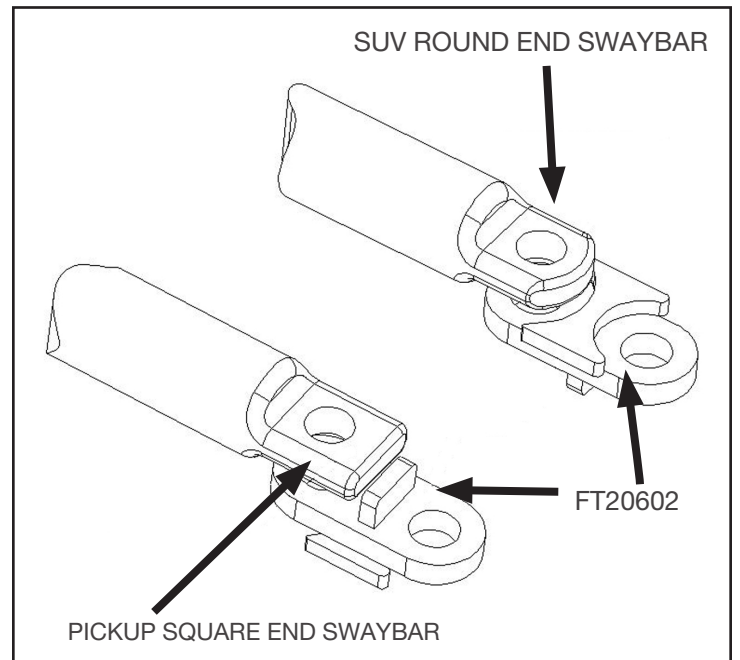

FIGURE 55 - STEP 41
41. Locate FT20602 Sway Bar Mounts and the supplied 18mm x 50mm hardware. Position the Sway Bar Mount so that it is on the bottom of the sway bar with the SHORTER side of the mount against the stop plate end of the mount. Attach with the 18mm hardware and torque to 110 ft-lbs. Locate the factory sway bar end links and attach to the new mount and the lower control arm. **(NOTE - SOME PICK UP TRUCKS MAY BE EQUIPPED WITH SUV STYLE SWAY BAR).** SEE FIGURE 55